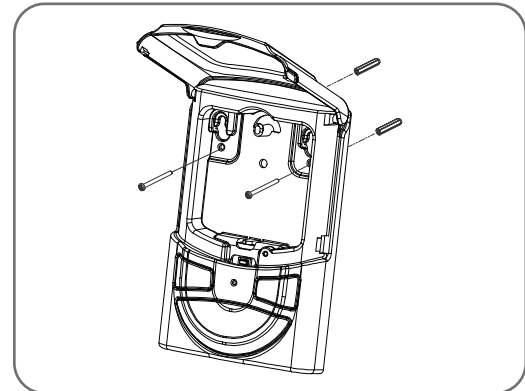

Fig.6.6.4
- Mount the remote control using parts provided in a convenient location, yet out of reach of children and at least 5 feet off the ground. (Fig 6.6.4)